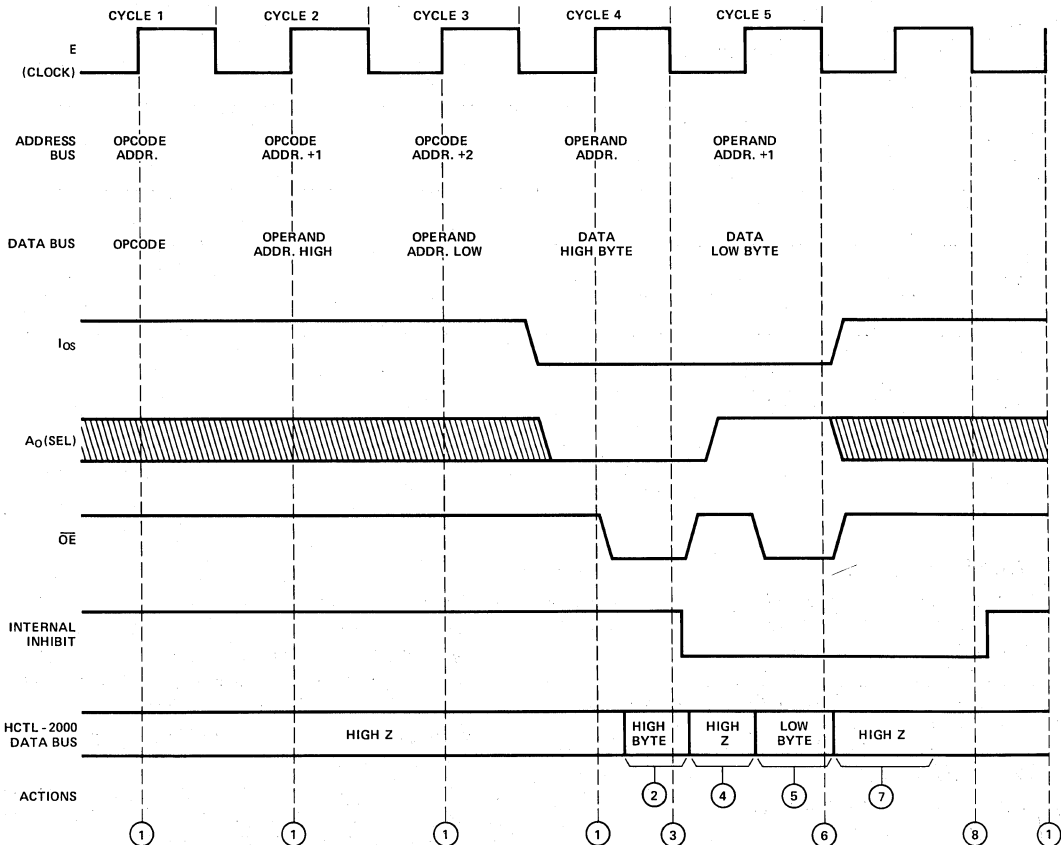
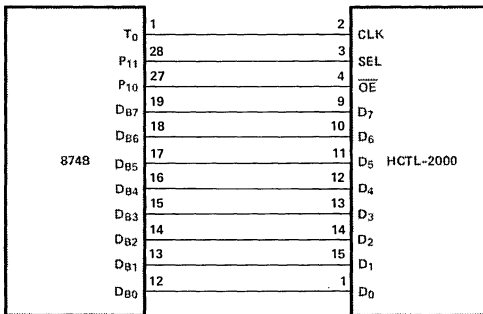

Figure 15. Interface Timing for the 6801 LDD E
Figure 16. An HCTL-2000 to Intel 8748 Interface
The processor clock output (E) is used to clock the HCTL-2000 as well as the address decoder. One of the address decoder outputs drives the  $\overline{OE}$  input. This results in HCTL-2000 counter data being enabled onto the bus whenever an external memory access is made to the HCTL-2000. This example assumes the address assigned to the HCTL-2000 high byte is an even address. The least significant address bit is connected to the SEL input. It determines which data byte is output. When A0 on the decoder equals 0 the chip selects the high byte, and when A0 equals 1, the chip selects the low byte. This configuration allows the 6801 to read both data bytes with a single double-byte fetch instruction (LDD E, 01XX). The LDD instruction is a five cycle instruction which reads external memory location 01XX and stores the high order byte in accumulator A and reads external memory location 01XX + 1 and stores the low order byte in accumulator B during the last two cycles. Figure 15 illustrates the sequence of events during all five cycles.
The circuit in Figure 15 shows the connections between an HCTL-2000 and an 8748. Data lines D0-D7 are connected to the 8748 bus port. Bits 0 and 1 of port 1 are used to control the SEL and  $\overline{OE}$  inputs of the HCTL-2000 respectively. T0 is used to provide a clock signal to the HCTL-2000. The frequency of T0 is the crystal frequency divided by 3. T0 must be enabled by executing the ENT0 CLK instruction after each system reset, but prior to the first encoder position change. An 8748 program which interfaces to the circuit in Figure 16 is given in Figure 17. The resulting interface timing is shown in Figure 18.